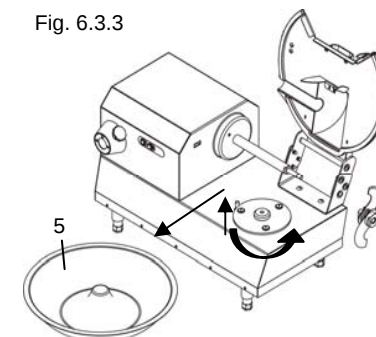

Fig. 6.3.3
- Turn the lock knob of the blade holder "3" (Fig. 6.3.3)
- Remove the blade holder from the shaft "4" (Fig. 6.3.3)
- Turn the tank "5" counter-clockwise (Fig. 6.3.3) in order to release it from its seat